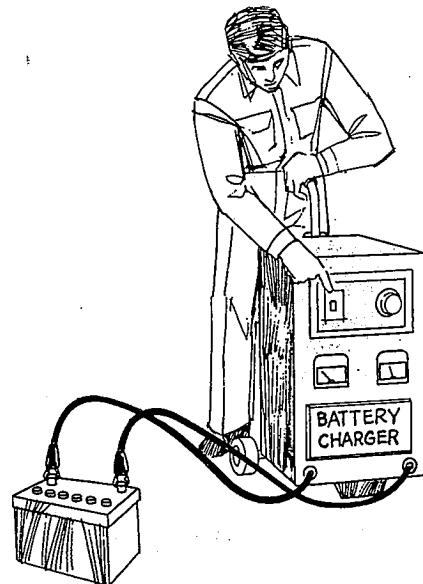

Fig. 54—Turn Charger Off Before Disconnecting Clamps From Battery Posts
5. *Prevent sparks from battery charger leads.* Turn the battery charger off or pull the power cord before connecting or disconnecting charger leads to battery posts (Fig. 54). If you don't, the current flowing in the leads will spark at the battery posts. These sparks could ignite the explosive hydrogen gas which is always present when a battery is being charged.